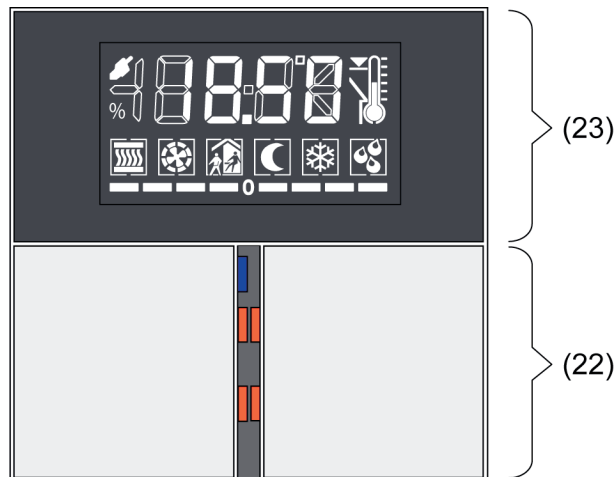

Figure 6: Arrangement of the control surfaces on the front of the device
The device consists of three mechanically separate control surfaces. The control surfaces are the design covers attached to the device with push button elements underneath. A distinction is made between the display operating area (23) and the operating areas of the push-button sensor function (22) (figure 6).